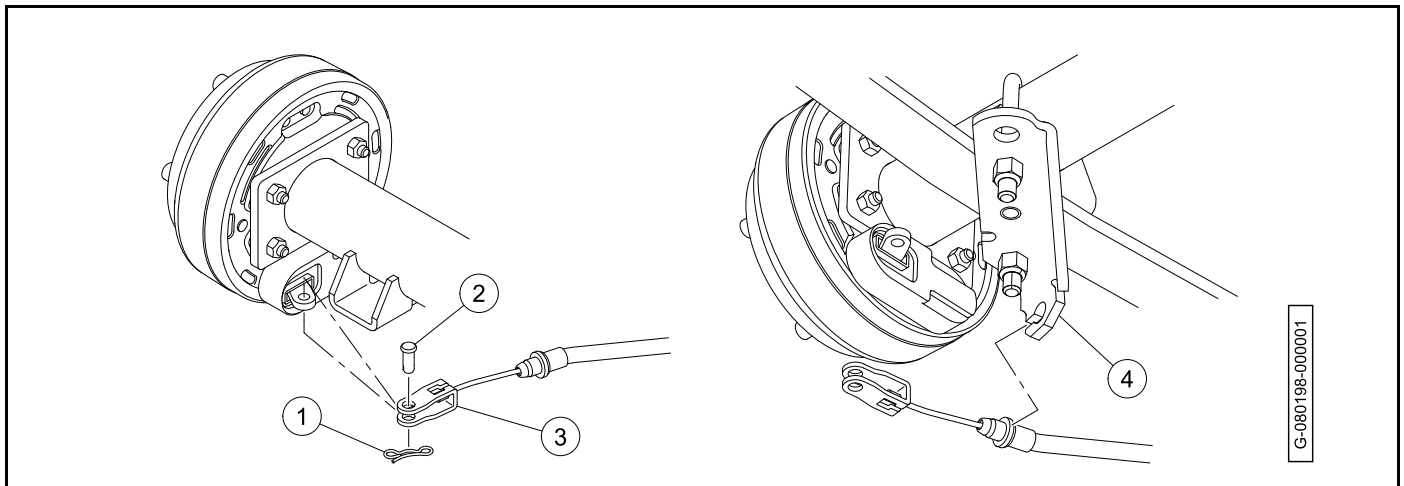

Figure 9-9
6. Remove the bow tie locking pin (1) and the clevis pin (2) (Figure 9-9, Page 9-9).